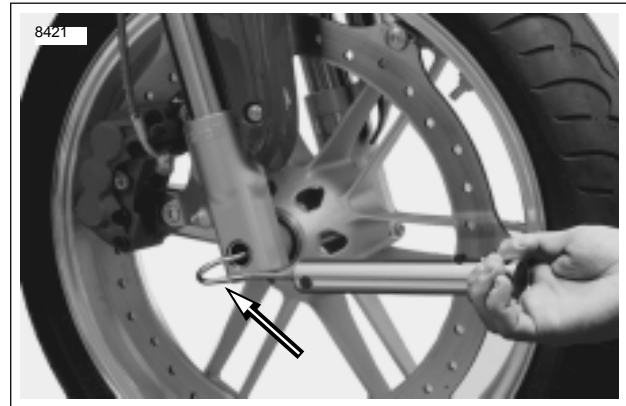

Figure 1-35. Measuring Steering Head Bearing Resistance
6. See Figure 1-35. Hook a spring scale into the hole in the front axle. With scale 90 degrees from fork leg, pull front wheel to center position.
7. See Figure 1-35. Hook a spring scale into the hole in the front axle. With scale 90 degrees from fork leg, pull front wheel to center position.